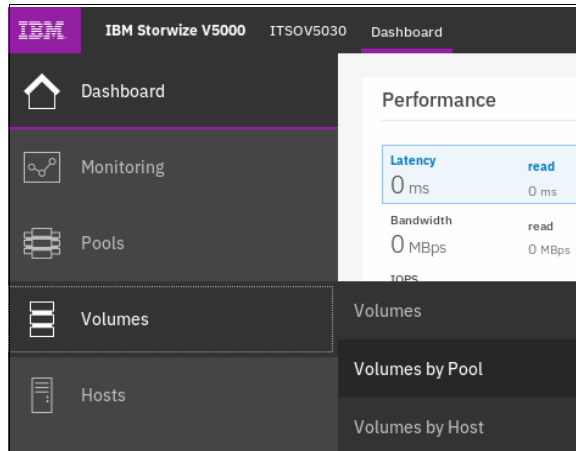

Figure 8-68 Volumes by Pool menu
1. Click **Volumes by Pool**, as shown in Figure 8-68.